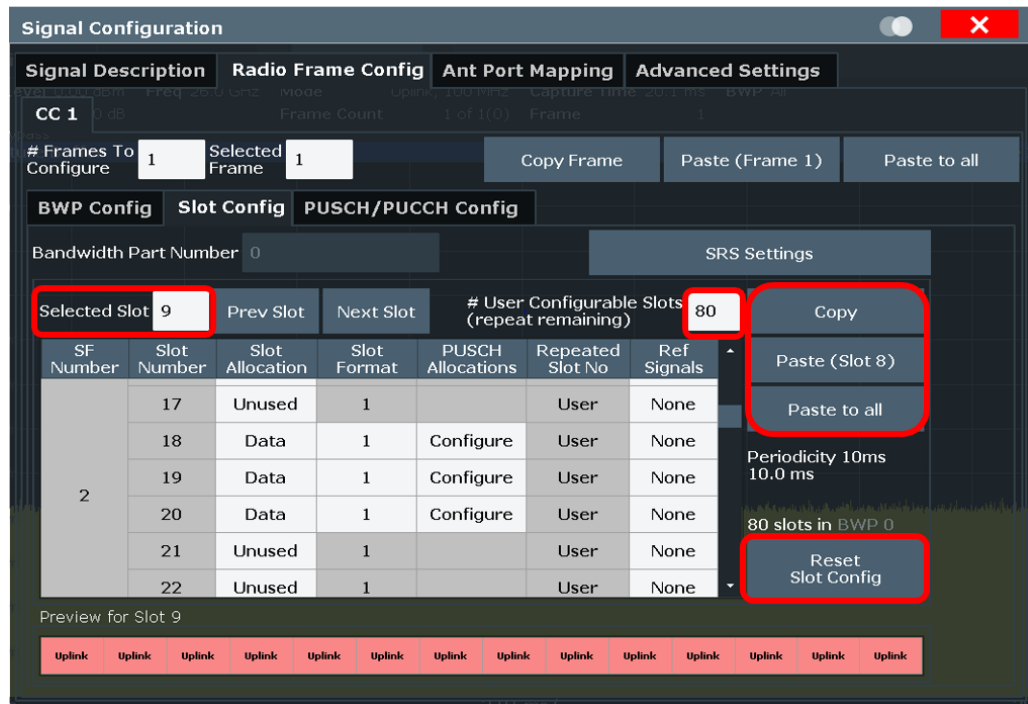

Fig. 4-22: Radio Frame Slot configuration for TDD UL
Fig. 4-22 shows the slot configuration for the TDD UL 5G NR signal analysis on the FSW. In the slot configuration menu,
- Copy and paste slot 8 to slot 18 as shown in Fig. 4-22
- Copy and paste slot 9 to slot 10 as shown in Fig. 4-22
- Copy and paste slot 19 to slot 20 as shown in Fig. 4-22